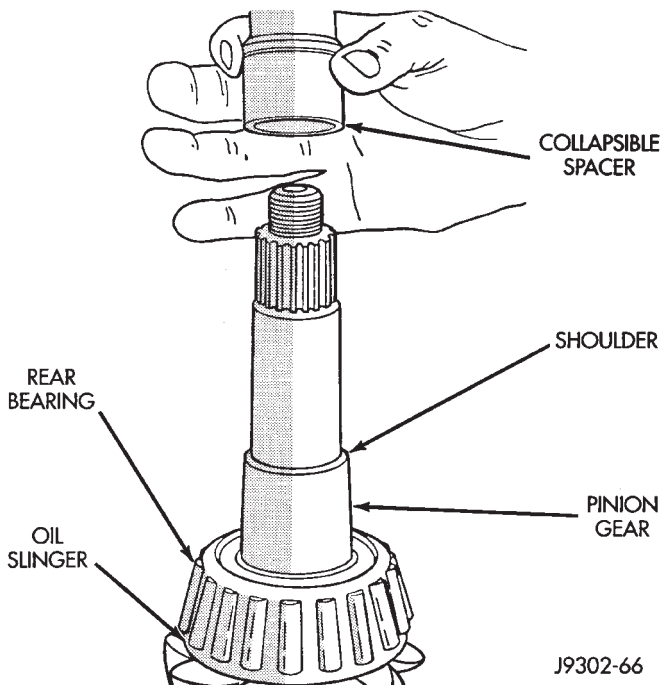

Fig. 55 Collapsible Preload Spacer
- (6) Install a new collapsible preload spacer on pinion shaft (Fig. 55).
- (7) Install pinion gear in housing.